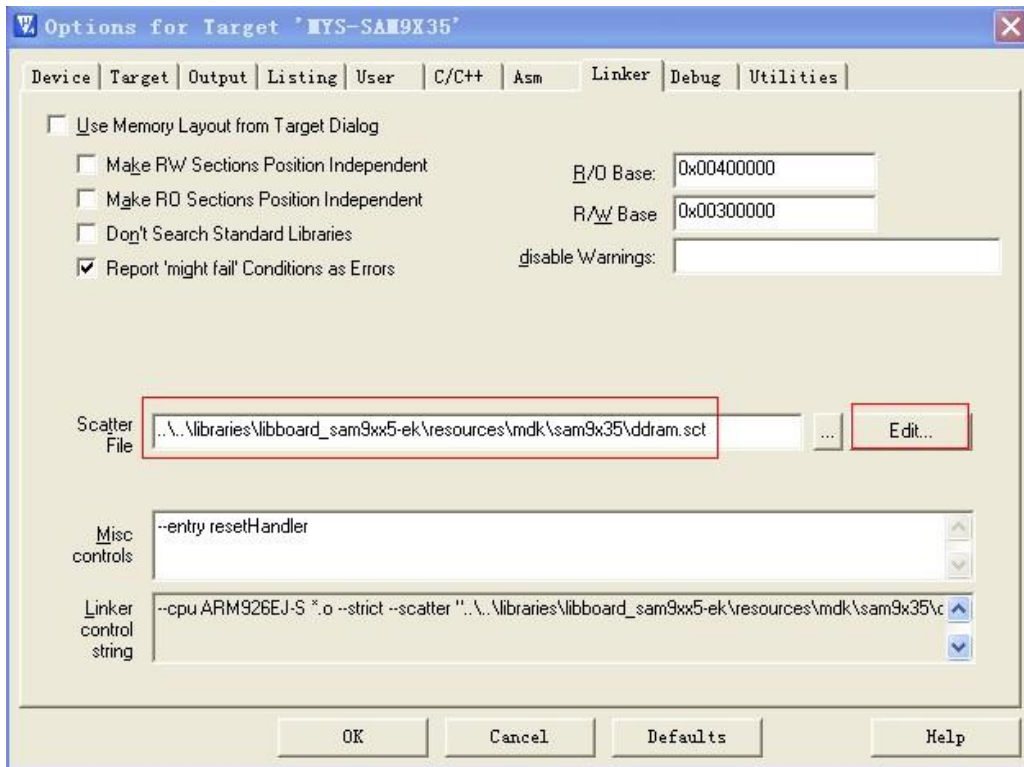

Figure 3-4
(4) Switch to Linker Tab, setting as figure 3-4: